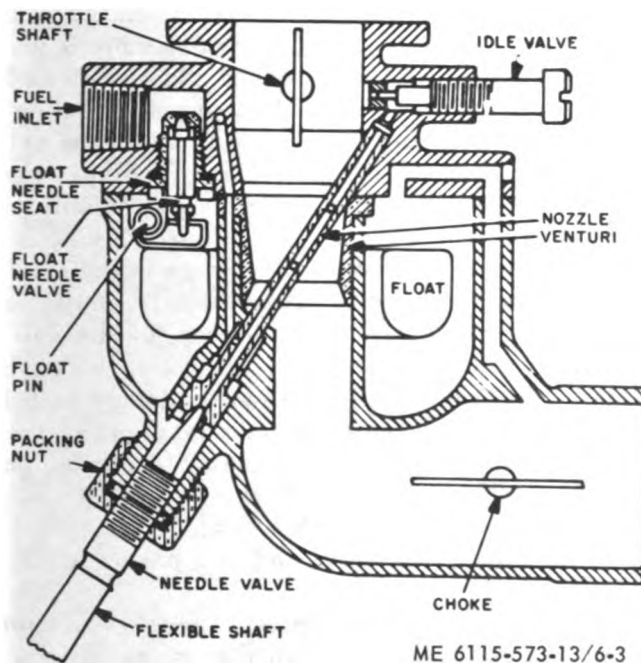

Figure 6-3. Carburetor, cutaway view.
d. Carburetor Disassembly (fig. 6-3).
- (1) Remove carburetor as directed in *b* above.
- (2) Use a ½ inch wrench and loosen needle packing nut. Screw out the packing nut and needle valve together.
- (3) Use a thin, blunt screwdriver to remove the nozzle. This nozzle projects into a recess in the upper body and must be removed before the upper body is separated from the lower body.
- (4) Remove the four screws holding the upper and lower bodies.
- (5) Remove the idle valve.
- (6) Remove pin which holds the float in place.
- (7) Remove the float and float needle valve. Check the float for leakage. If float contains gasoline, replace.
- (8) A wide, heavy screwdriver should be used to remove the float needle seat. Pull venturi out of lower body.
- (9) To remove throttle shaft, use a thin punch to drive out the pin which holds the throttle stop to the shaft, then pull out the shaft. If the shaft and bushings are worn, replace.